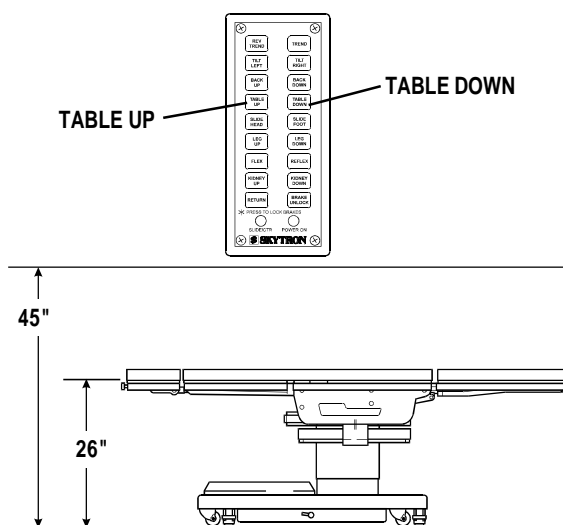

Figure 2-7. Elevation Function
e. Elevation. To raise table top, press the TABLE-UP button (figure 2-7.). The table will lift a patient weight of 500 pounds up to a maximum height of 45". To lower the table top, press the TABLE-DOWN button. The table top will go down to a minimum height of 26" (minus pad).